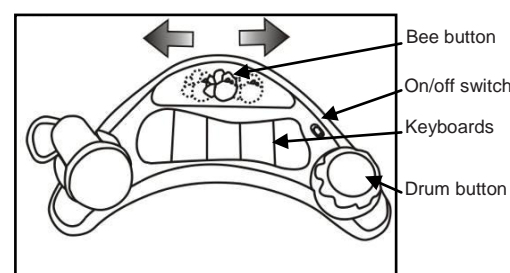

Figure 14
- Select the multi-music by pushing the Bee to the left and right, as per **Figure 14**.